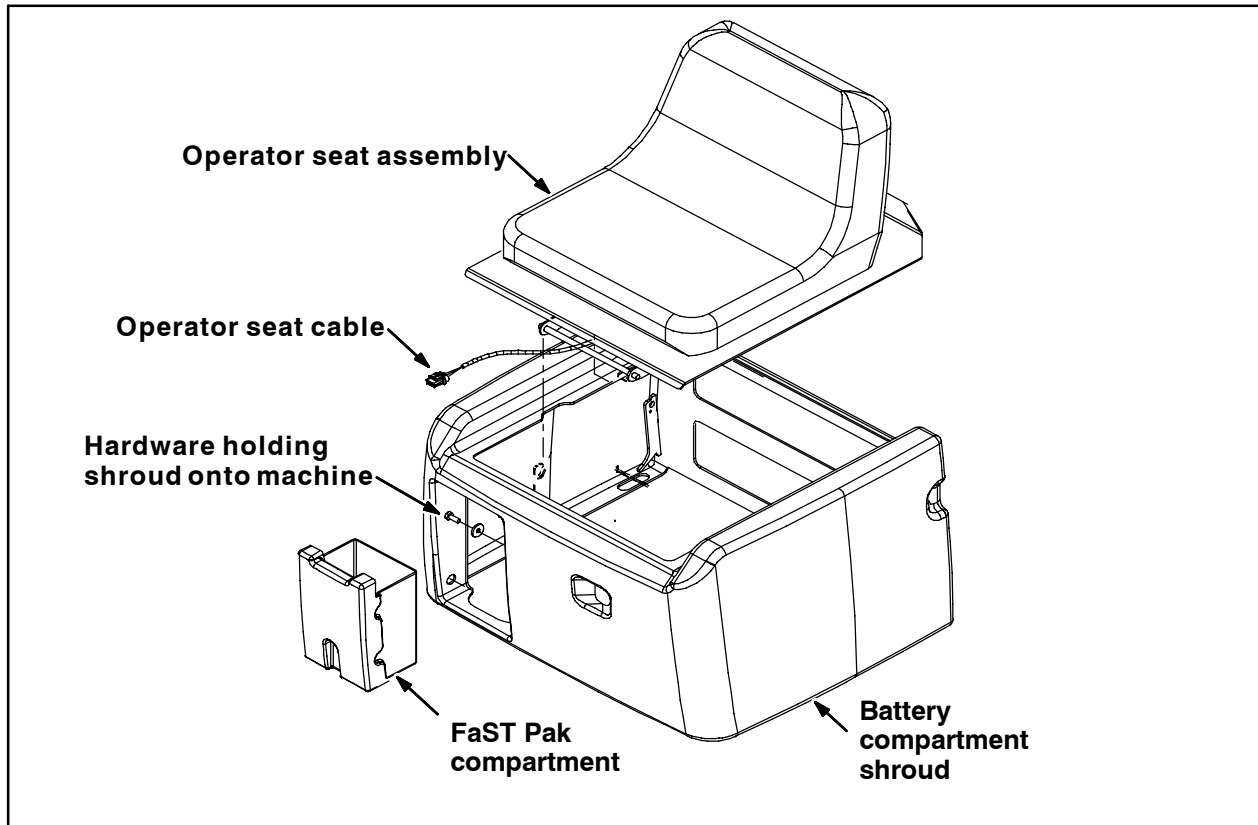

FIG. 5
4. Disconnect the operator seat connector from the main wire harness and remove the seat from the machine. Refer to Fig. 5.
5. Disconnect and remove the FaST Pak from the machine (machines equipped with the FaST scrubbing system only). Refer to Fig. 5.
6. Remove the FaST Pak compartment from the machine. Refer to Fig. 5.
7. Remove the battery compartment shroud from the machine. Set the shroud and hardware aside. Refer to Fig. 5.
16. Place the battery compartment shroud onto the machine and reinstall the hardware to secure the shroud onto the machine. Refer to Fig. 5.
17. Reinstall the FaST Pak compartment. Refer to Fig. 5.
18. Reinstall the FaST Pak (for machines equipped with the FaST scrubbing system only). Refer to Fig. 5.
19. Reinstall the operator seat onto the machine and connect the operator seat cable to the main wire harness. Refer to Fig. 5.